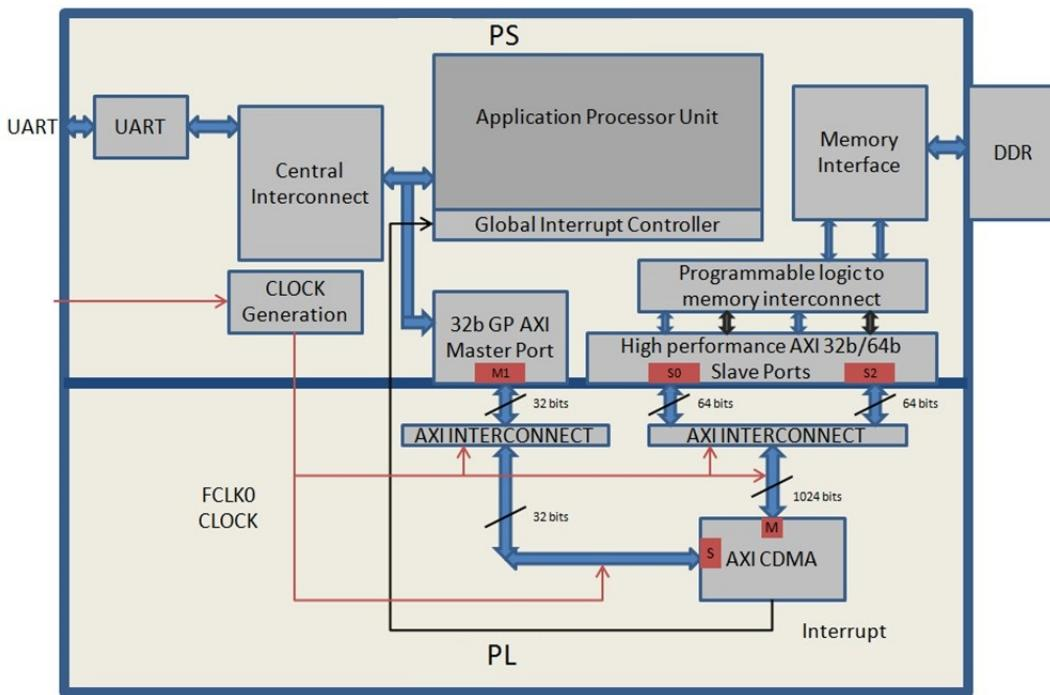

Figure 5-1: Block Diagram
In this section, you'll create a design using AXI CDMA intellectual property (IP) as master in fabric and integrate it with the PS HP 64 bit slave port. The block diagram for the system is as shown in Figure 5-1.